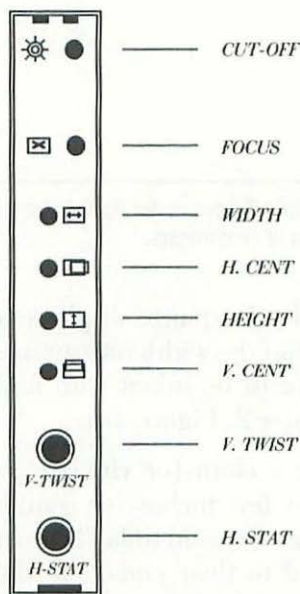

Figure 3-7 Control identification for AppleColor High-Resolution RGB Monitors.
To compensate for the screen curvature, hold your eye so that it's perpendicular to the left side of the display, and line up the 10-inch (or 10-centimeter) mark on the ruler with the left edge of the T-squares. Hold the tape in place at that spot. Now hold your eye perpendicular to the opposite side of the display and compare the right edge of the T-squares to the 19.28-inch (33.56-centimeter) mark on the ruler. Is the actual display narrower or wider than specified? If so, refer to Figure 3-7.
When the width measures exactly 9.28 inches or 23.56 centimeters, rotate the tape measure and check the height, as shown in Chapter 2, Figure 2-8. To avoid confusion between window height and display height, refer to notes 4, 5, and 6 on the T-squares display. Is the actual display height taller or shorter than specified? If so, refer to Figure 3-7. The height control is symbolically identified as a vertical line with arrows at either end. On this particular monitor, it's also the fifth control down (not the third control down as on the Apple High-Resolution Monochrome Monitor). To correct the height, insert the screwdriver end of a plastic TV alignment tool (not a metal screwdriver) into the height control and turn it slowly until the actual display height measures 6.96 (approximately 17 - 10) inches or 17.67 (27.67 - 10.00) centimeters.
To confirm the horizontal centering, measure the distance from the left side of the test pattern to the left edge of the screen and compare it to the distance from the right side of the test pattern to the right edge of the screen. Are they the same? If not, refer to Figure 3-7. The horizontal centering control is symbolically identified as a box within a box. The smaller box is offset to the right. On this particular monitor, the horizontal centering control is also the fourth control down (not the fifth control down as on the Apple High-Resolution Monochrome Monitor). To correct the horizontal centering, insert the screwdriver end of a plastic TV alignment tool (not a metal screwdriver) into the horizontal centering control and turn it slowly until left and right borders of the test pattern are both approximately $\frac{1}{2}$ of an inch or 1.27 centimeters from the left and right edges of the screen.
To confirm the vertical centering, measure the distance from the top of the test pattern to the top edge of the screen and compare it to the distance from the bottom of the test pattern to the bottom edge of the screen. Are they the same? If not, refer to Figure 3-7. The vertical centering control is symbolically identified as a box within a box. The smaller box is offset to the top. On this particular monitor, the vertical centering control is also the sixth control down. To correct the vertical centering, insert the screwdriver end of a plastic TV alignment tool (not a metal screwdriver) into the vertical centering control and turn it slowly until the top and bottom borders of the test pattern are both approximately $\frac{3}{8}$ of an inch or 0.95 centimeters from the top and bottom edges of the screen.
All of the convergence dots should be perfectly white. There shouldn't be the slightest hint of color. If the three electron beams have been aimed properly, you shouldn't see any red, green or blue shadows. Examine the display closely. Are the white dots in the corners of the display just as white as the dots in the center? If not, refer to Figure 3-7. The static
As shown in Figure 3-7, the focus control is symbolically identified by an x. On this particular monitor, it's also the second control down (not the top control as on the Apple High-Resolution Monochrome Monitor). To adjust the focus, insert the screwdriver end of a plastic TV alignment tool (not a metal screwdriver) into the focus control and turn it slowly until all of the text bars appear to be equally sharp.
2. As shown in Figure 3-7, the cut-off control is identified by a star. On this particular monitor, it's also the first control at the top of the panel. Insert the screwdriver end of a plastic TV alignment tool (not a metal screwdriver) into the cut-off control and slowly turn it counterclockwise until the black raster just fades into the screen